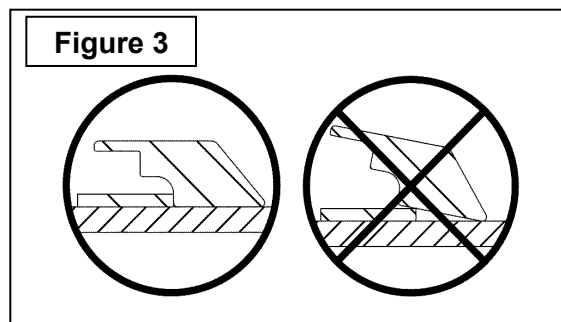

Figure 3
6. **Figure 3:** Make sure the chute is always well centered with the output of the snowblower while assembling the other retaining plates. The anti-friction plates (item 2) should not be under the retaining plates.